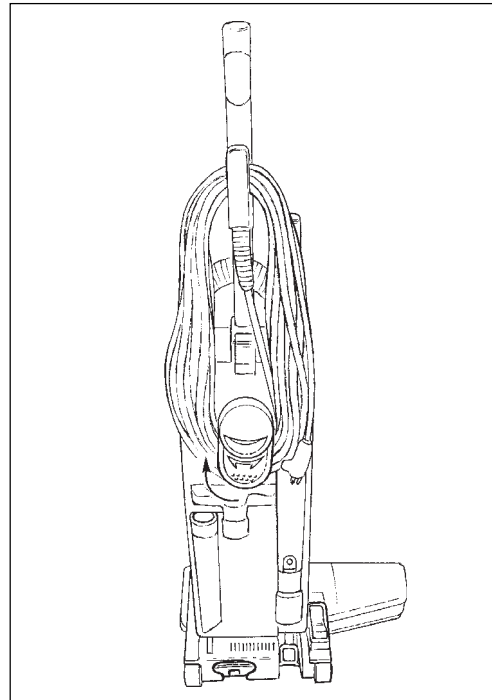

Figure 14
1. Remove the power cord from the cord storage hooks, by rotating the lower cord hook 180° (see figure 14).